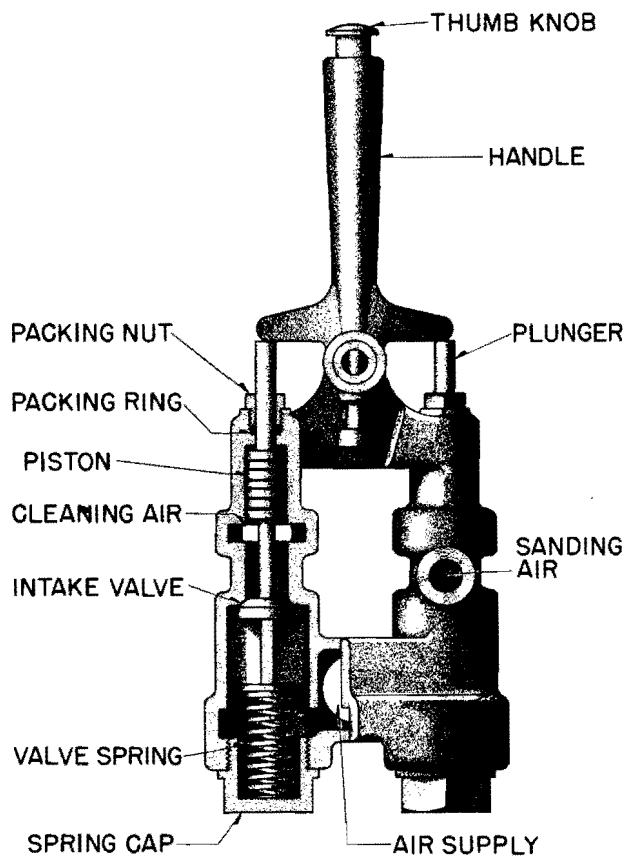

Fig. 3 - Switcher Operating Valve
of the cab to the right of the engineer's seat. The double acting valve is for sanding in both forward and reverse movements. As the operating valve handle is pushed forward for sanding in forward movement or pulled backward for sanding in reverse movement, the piston and intake valve moves downward. This permits air under full main reservoir pressure to pass by the intake valve and out the cleaning air and the sanding air outlet. One sand operating valve operates eight sand traps, four traps for forward movements and four traps for reverse movements, Fig. 3.
1. Apply air with handle in closed position. If air blows through ports, the intake valve is leaking and must be ground, Fig. 3.